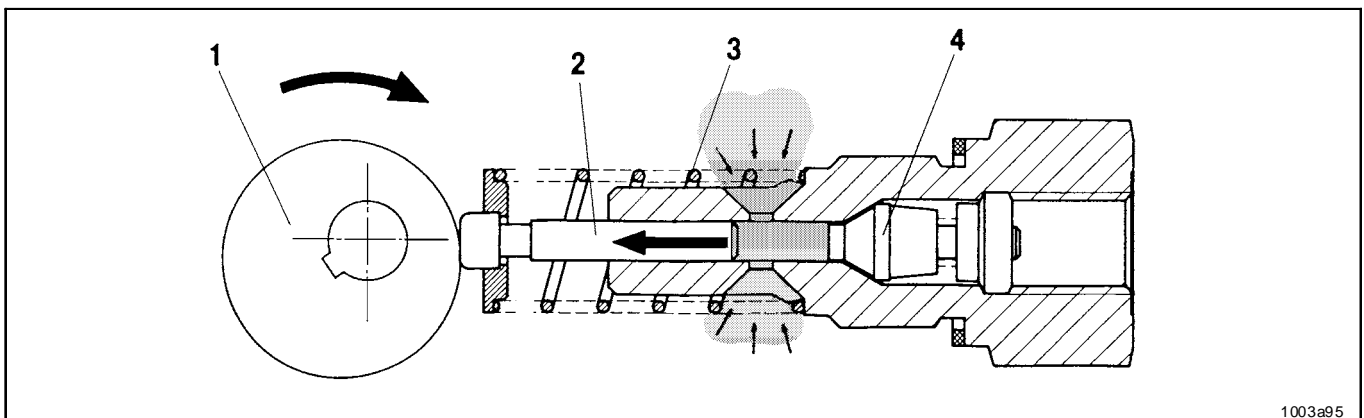

Fig. 2-2 The pump element sucks in lubricant
- The electric motor drives the eccentric 1 (fig. 2-2 and 2-3).
- piston 2 sucks in lubricant from the reservoir (fig. 2-2).